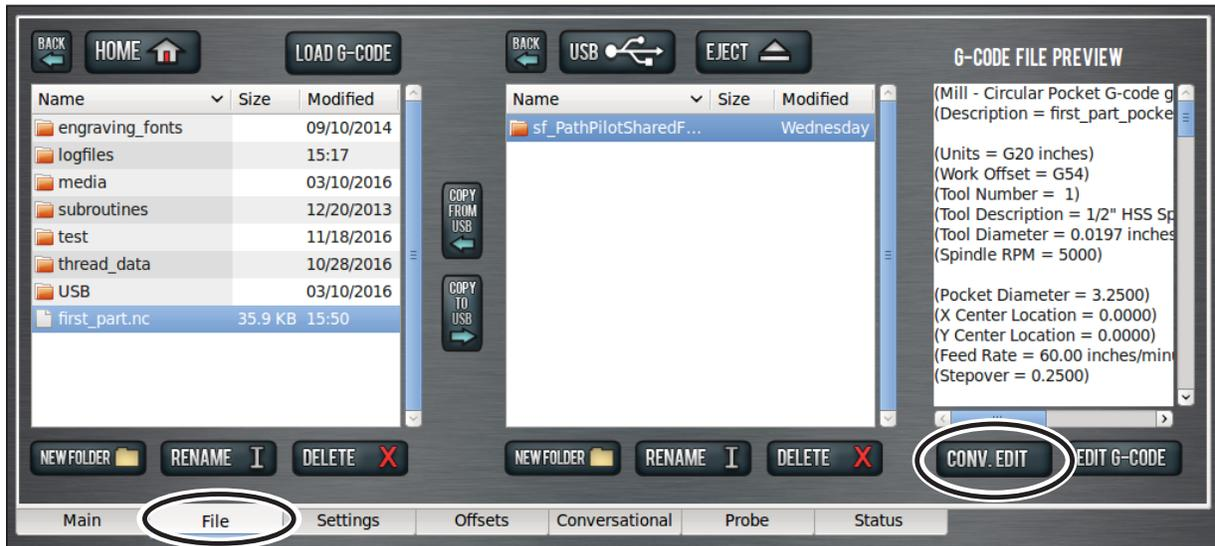

Figure 2
1. From the *File* tab, select the file and click *Conv. Edit* (see **Figure 2**).